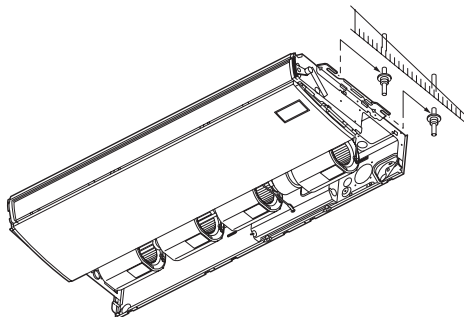

Fig. 2-77
- b) Lift the indoor unit, and place it on the washers through the notches, in order to fix it in place. (Fig. 2-77)